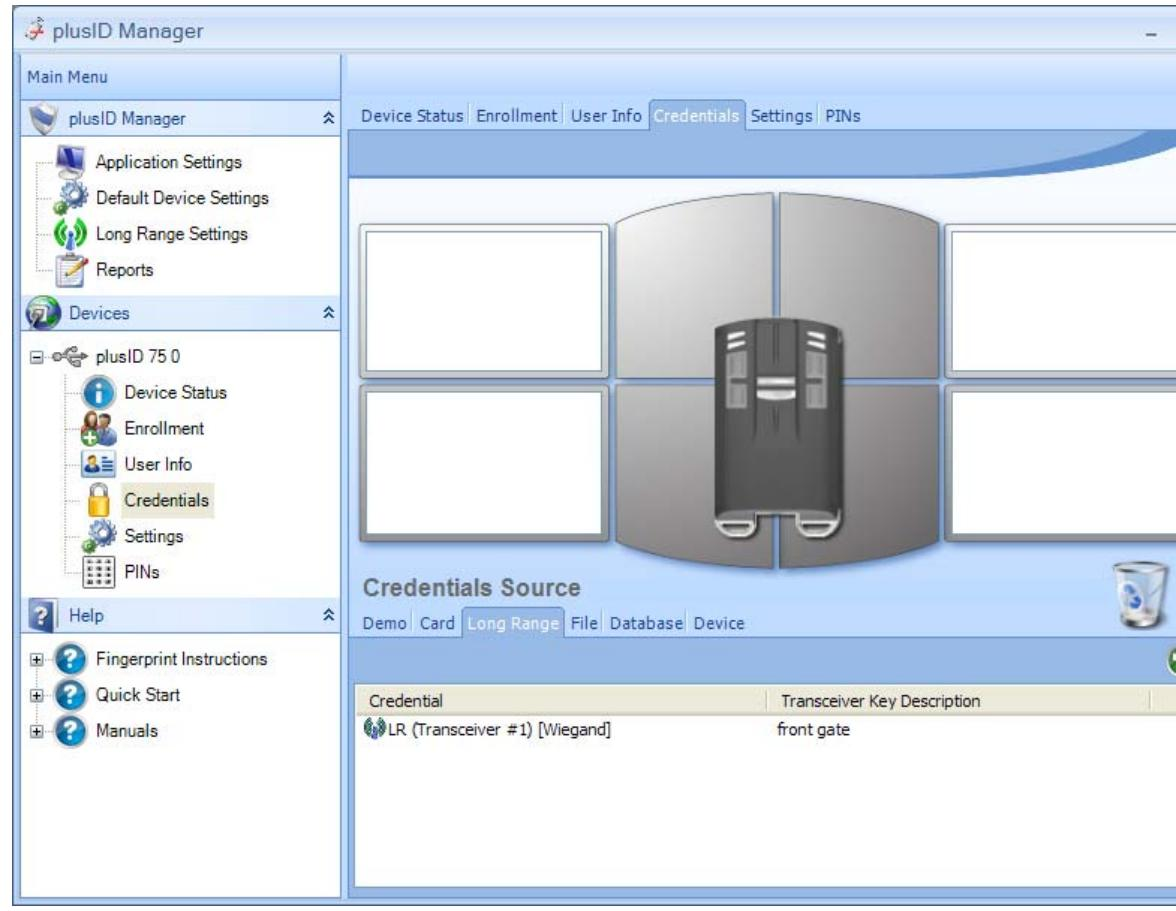

Figure 9
2. Select the Long Range tab under Credentials Source. (Figure 9)